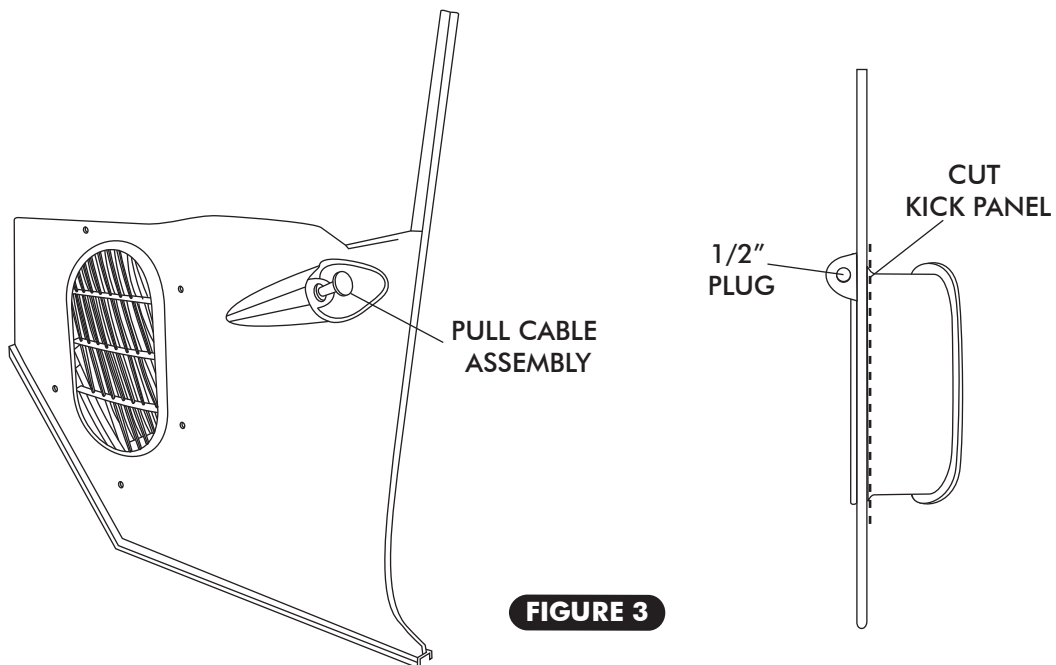

FIGURE 3
- ☐ CUT FRESH AIR DOOR FLUSH ON THE BACK SIDE OF KICK PANEL (DISCARD). SEE FIGURE 3, BELOW.